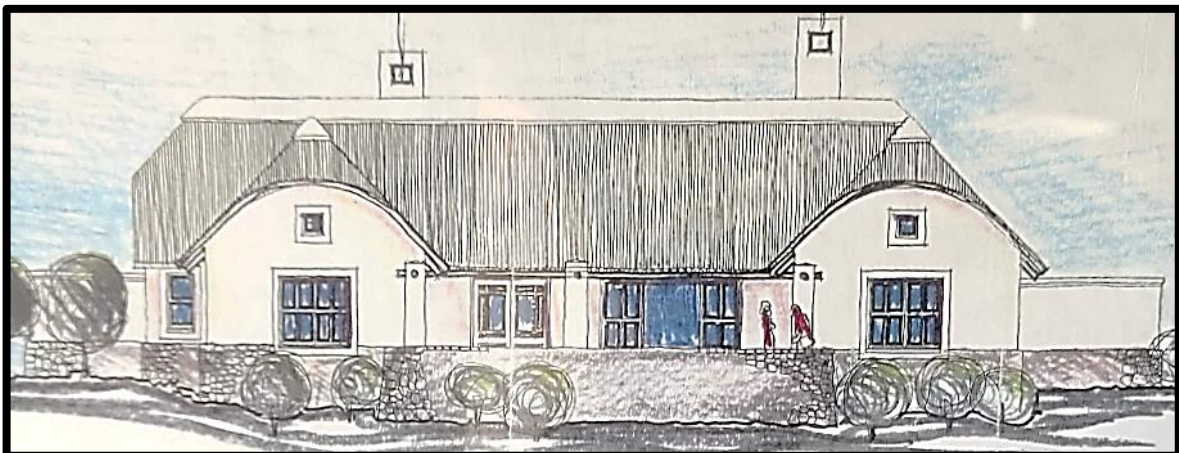

Figure 1: Typical Springerbaai architecture
The architectural design philosophy is to capture the serene atmosphere of the estate and to ensure that the houses and people interact in a harmonious manner with nature. The Springerbaai architectural style adopted for the estate incorporates aspects of the Cape Vernacular and Cape Cottage elements with thatch roofs and an earthy colour appearance as indicated in Figure 1.
- 6.1.1 Hipped-end / Wolfent (“wolweneus”) are the preferred gable style for the development – see Figure 1.